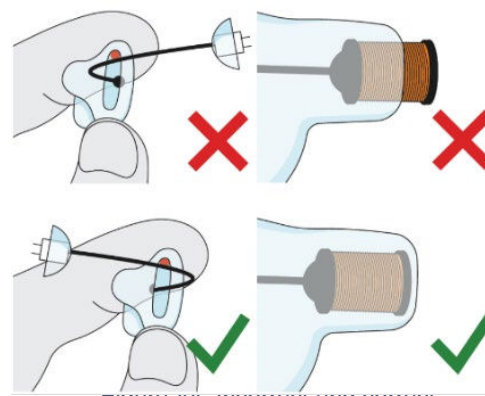

Figure 44. Incorrect and correct cable orientation (left panel) and coil positioning (right panel)
- Check to make sure that the cable curvature is oriented in the same direction as the positioning lip (Figure 44). If it is not, remove the cable, reorient, and repeat the insertion step.
- The transmitter coil must be within and should not protrude beyond the medial end of the shell (Figure 44). If the coil is over-inserted, pull the cable in the lateral direction to seat the cable into the coil pocket.